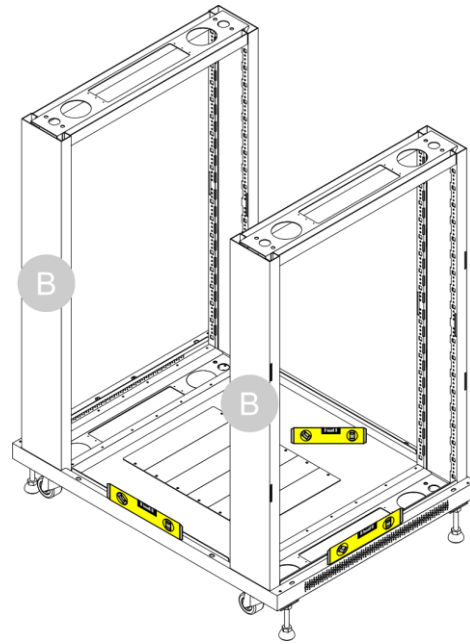

Fig. 26
- 10) Make sure that the cabinet is completely leveled in all directions, as shown in Fig. 26. Adjust the **adjustable feet (J)** if necessary. See step 08.